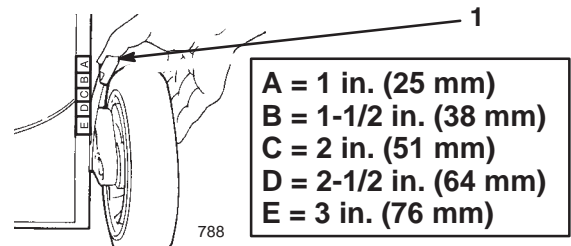

Figure 13
1. To change the cutting height, pull the cutting height lever toward the wheel and move it to the desired position (Fig. 13).